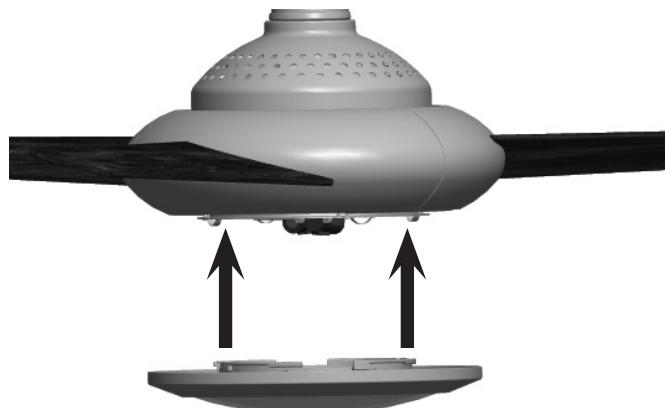

FIGURE 2.
Step 3. Carefully lift the glass shade up inside the light fixture as far as it will go. Figure 2.